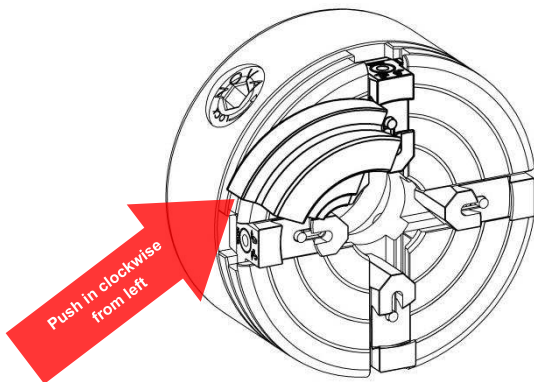

Figure 2
Check that the internal spigot of chuck body plus insert threads are clean and that the spigot end of the insert is free from damage. Any dents or nicks must be carefully filed off so the insert can be fully screwed home in chuck body. Refer to FIGURE 2. The tolerances of the chuck body and insert are a tight fit to ensure accuracy. This means that the insert may be difficult at first to engage with the chuck body thread. One way is to grip the chuck body in a vice (pad against
damage) and screw in insert using the optional accessory spanner or a 1 1/2" AF spanner. Care needs to be taken that the outer male insert thread is engaged properly at the start with the female body thread. Screw insert fully into body recess. This is important to ensure running. Refer to FIGURE 2.
3. Position a jaw to the left of its respectively numbered jaw slide (i.e. Jaw #1 with Jaw Slide #1). Push the Jaw clockwise into a Jaw Side. A clicking sound should be heard to show that the Jaw has successfully mounted. If not, wiggle the jaw to ensure engagement. (figure 2)